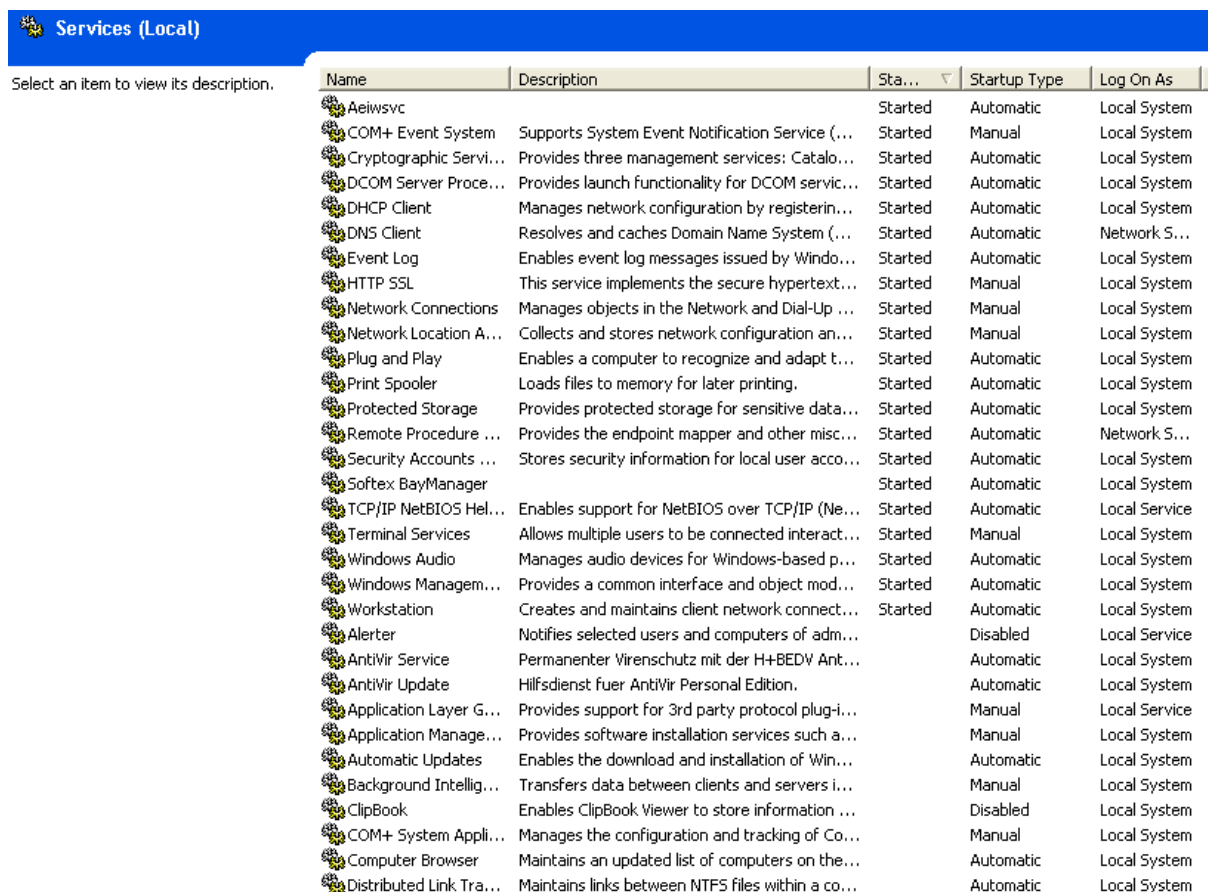

Fig. 3.3: List of processes which should not be stopped
- e) Go to “Settings”- “Control panel” – “Administrative Tools” –“Services” and look for running services. Stop all services not needed (a list of services which should not be stopped can be seen in fig. 3.3).